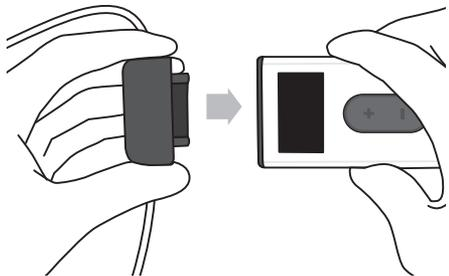

Fig. 3
4. Attach the pump head to the Passio Handheld Control Unit. (Figure 3) Place